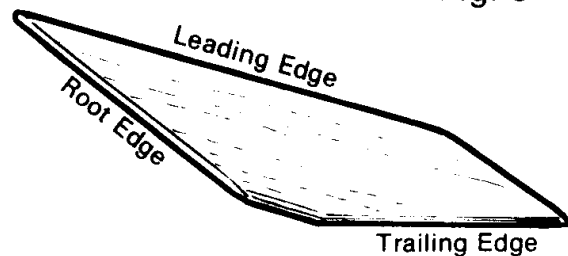

Fig. 8
- D To improve the appearance of the fins, round the leading edge and trailing edge of the fins (as shown in Fig. 8) by gently sanding with fine sandpaper or an emery board. For high performance, the trailing edge may be tapered instead of just rounded. This will result in lower air drag during flight. Leave the fin tip flat, and squared off.